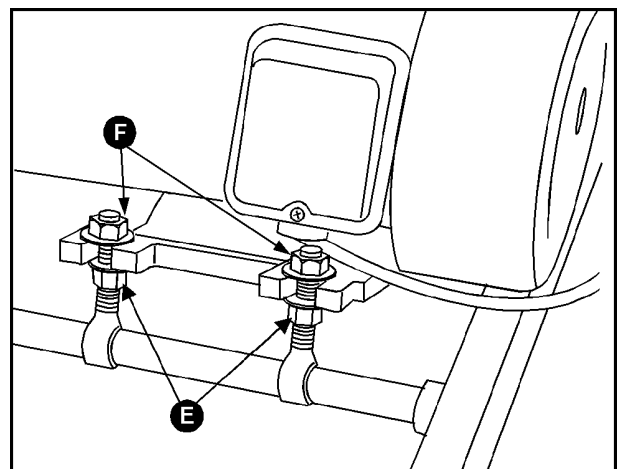

Fig. 11
3. If adjustment of belt tension is necessary, loosen one pair of hex nuts (E & F, Fig. 11) and turn the other pair to raise or lower the motor plate. Re-tighten nuts.